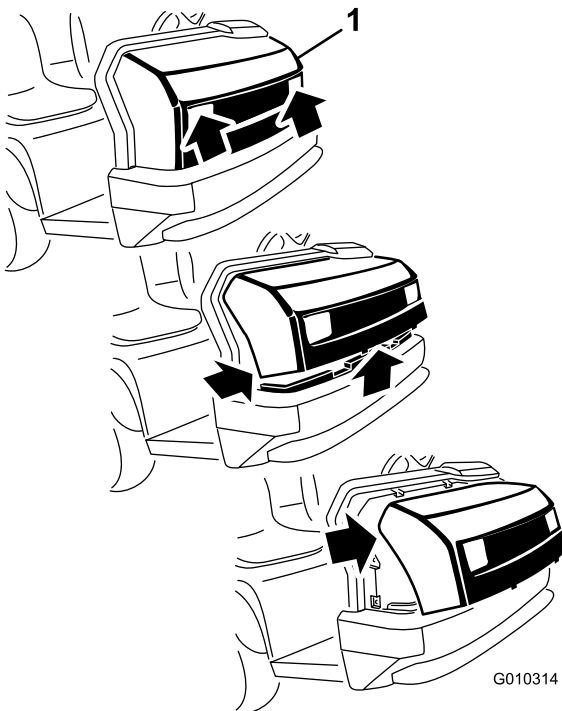

Figure 35
3. Pivot the top of the hood forward and unplug the wire connectors from the headlights (Figure 35).
2. Insert the top mounting tabs into the frame slots (Figure 35).
3. Insert the lower mounting tabs into the frame slots (Figure 35).
1. While grasping the hood in the headlight openings, lift up the hood to release the lower mounting tabs from the frame slots (Figure 35).
2. Pivot the bottom of the hood upward until you can pull the top mounting tabs from the frame slots (Figure 35).